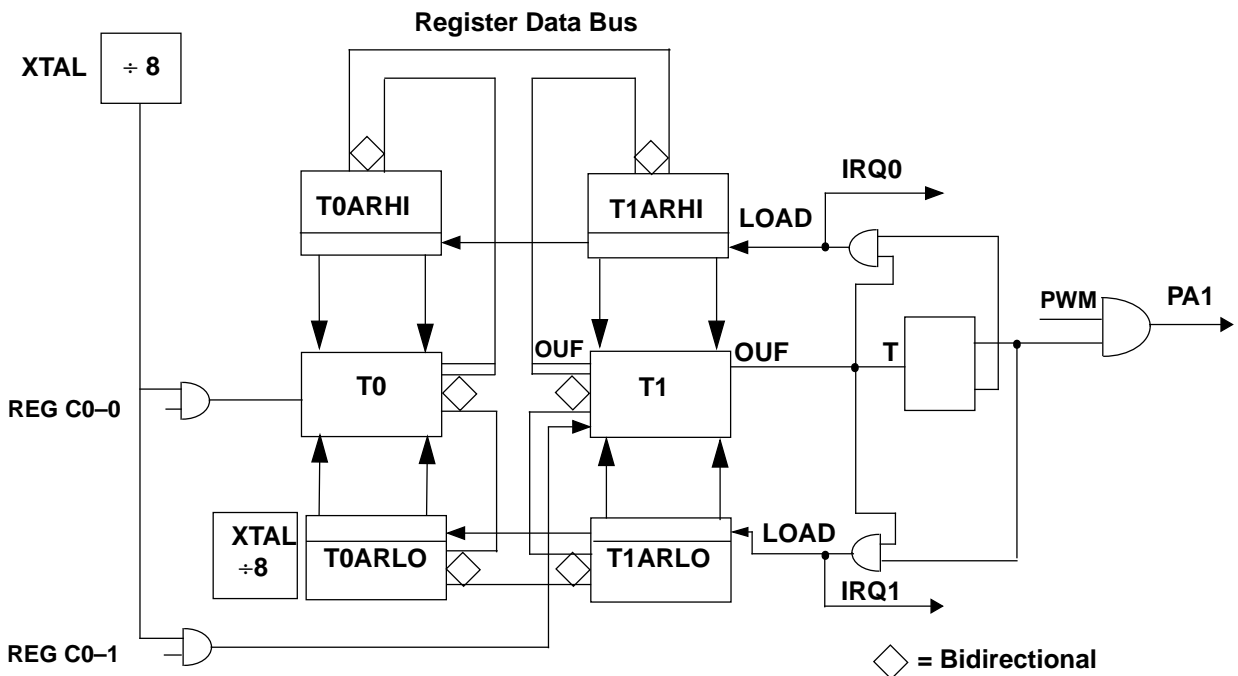

Figure 18. Z8E520 Timers Block Diagram
**Counter/Timers.** For the Z8E20, 8-bit timers T0 and T1 are available to function as a pair of independent 8-bit standard timers, or they can be cascaded to function as a 16-bit PWM timer. In addition, 8-bit timers T2 and T3 are provided but they can only operate in cascade to function as a 16-bit standard timer (Figure 18).